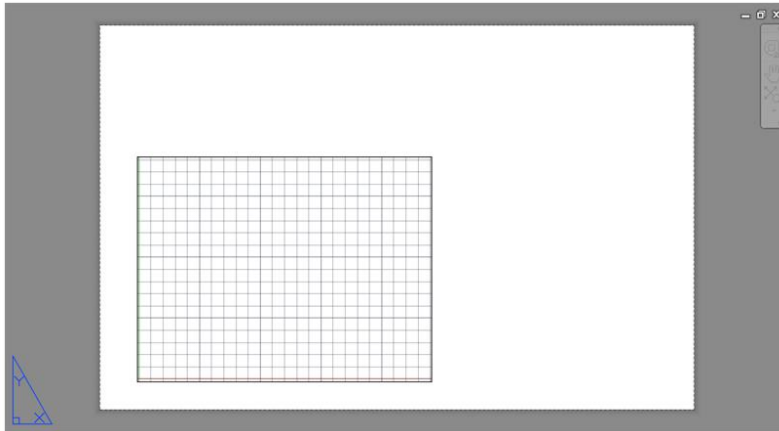

FIGURE 14.14: The named page setup applied to Layout1 for the cabin
12. Click Close to close the Page Setup Manager dialog box. You are returned to your drawing, and Layout1 appears (see Figure 14.14).